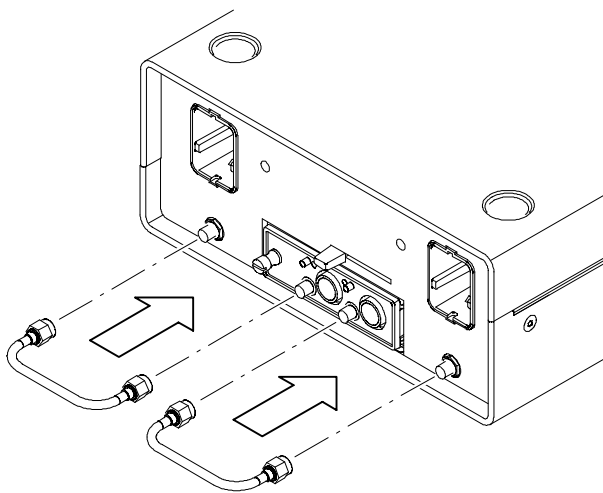

Figure 5: Connecting the sampling module
2. Use the two semi-rigid SMA cables (included with this product) to connect the TekConnect Probe Interface Module to the sampling module as shown in Figure 5. To obtain proper alignment and mate the SMA connectors, you may need to change the bend angle of the center bend. It is recommended that you do not change the bend angle by more than 1/8 in.